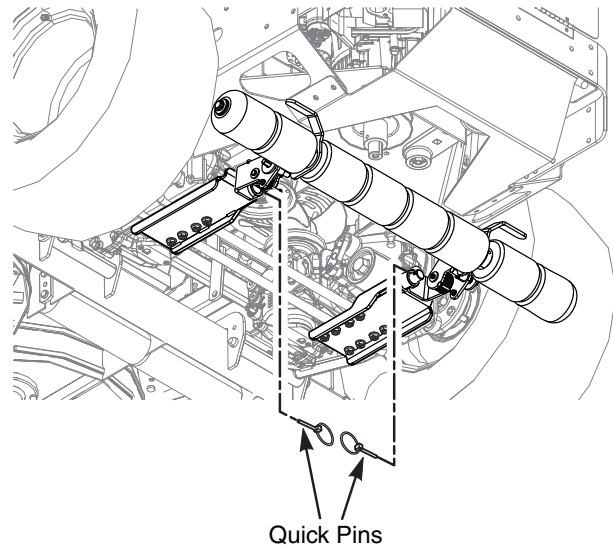

FIGURE 2-3
4. Once the SCZ Striper is locked in the transport position, remove the quick pins securing the SCZ Striper to the mounting brackets. See Figure 2-3